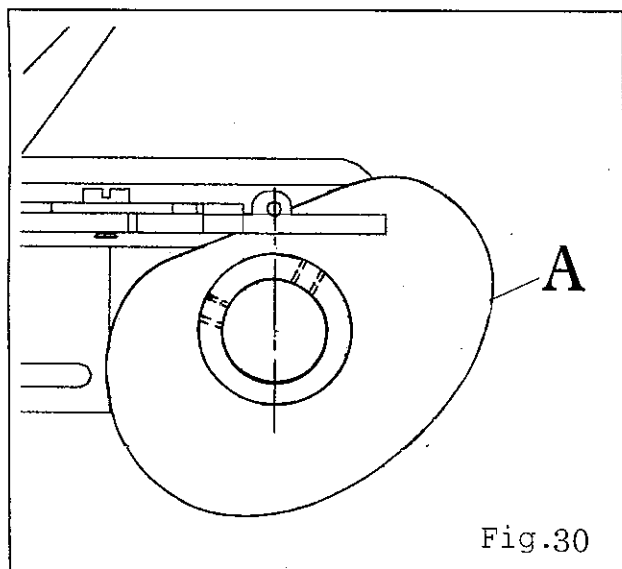

Fig.30
1. When the Needle Bar lift to the highest position, the flat of Looper Thread Take-Up (A) touch the thread while it locates at 45 degree. The Looper Thread Take-Up should be sat at middle of channel. (Fig30)